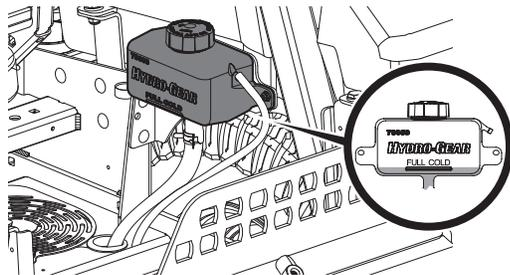

Figure 42
2. Turn the reservoir cap counterclockwise to remove, then check the oil level in the reservoir. Oil should be visible at the bottom of the cup, but the oil level must NOT be above the "FULL COLD" line (Figure 42). DO NOT FILL THE RESERVOIR.